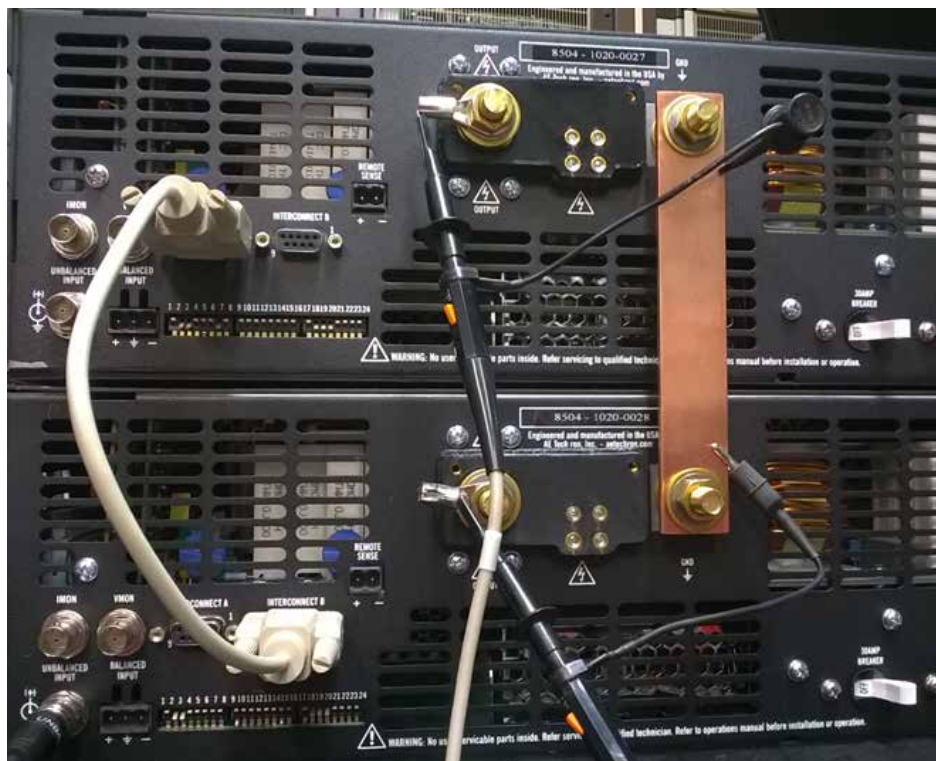

Figure 6.8 – Connecting the two amplifiers for parallel system testing
2. Place the Follower amplifier on top of the Master amplifier. See **Figure 6.8**. Connect the Black GND Cables: